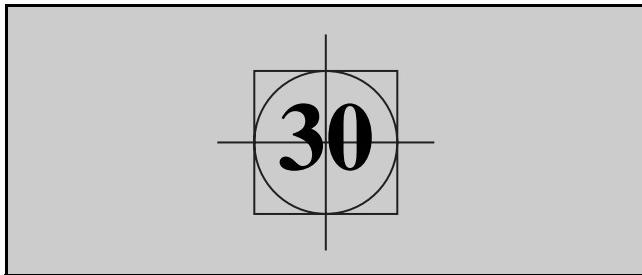
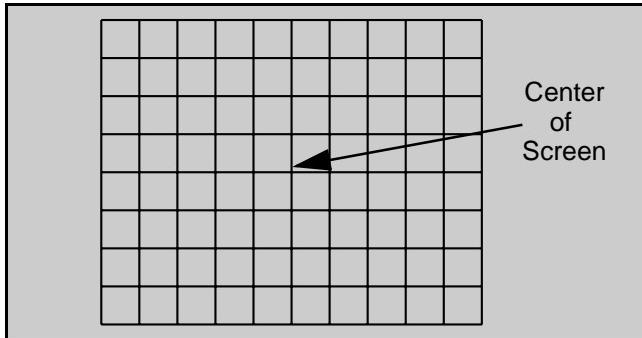

Figure 40. Aligning cross-hair cursor with monoscope pattern
Figure 41. Aligning cross-hair cursor with line pattern
7. Line up the cross-hair cursor with the center of the pattern (See Figure 40 and Figure 41). Use "CH" up or down or "VOL" left or right to move the cross hatch pattern.